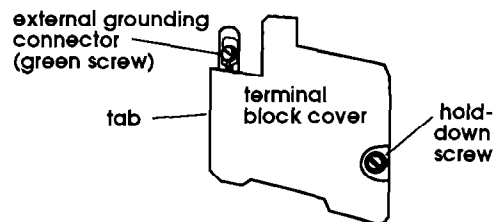

Figure 5
8. Insert tab of terminal block cover into slot of the dryer rear panel (Figure 5). Secure cover with hold-down screw.
9. Insert tab of terminal block cover into slot of the dryer rear panel (Figure 5). Secure cover with hold-down screw.